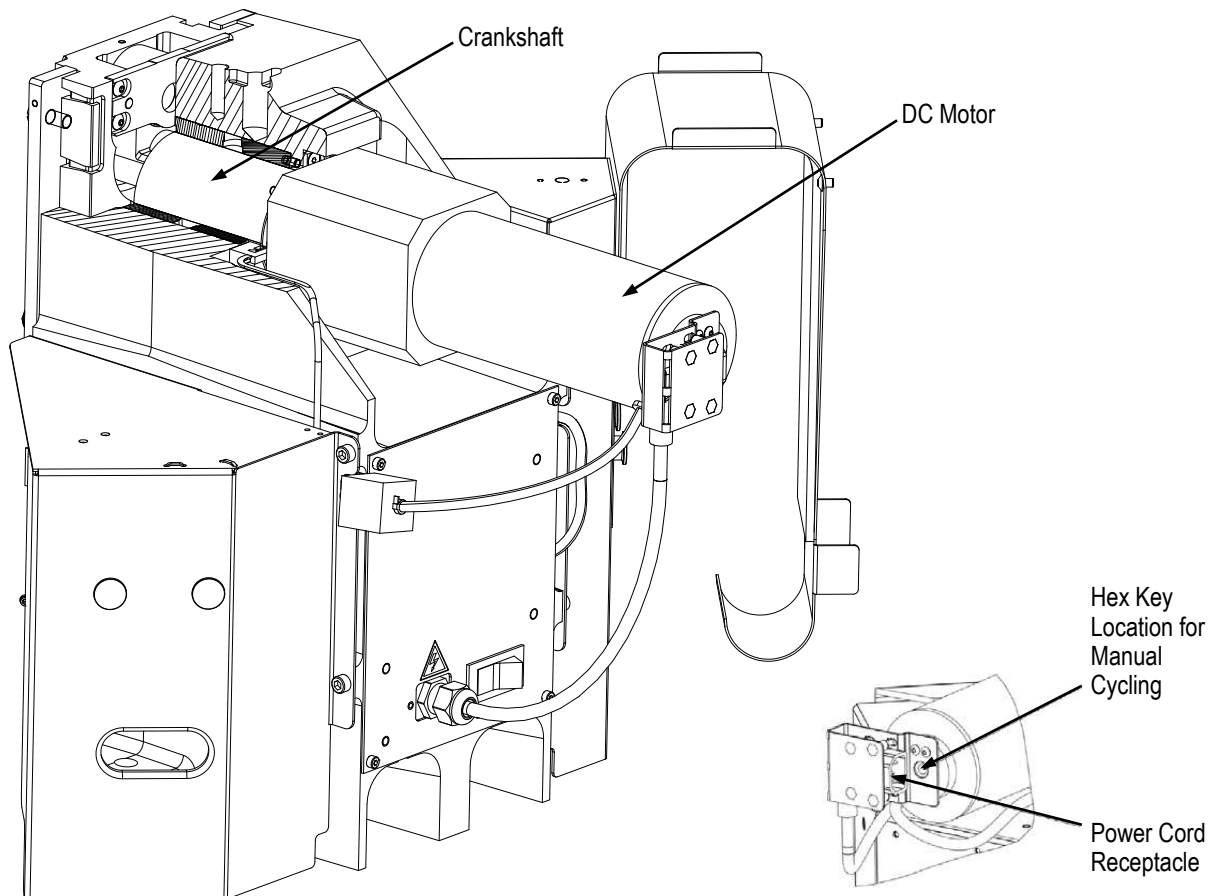

Figure 3
1. The **motor group** includes a dc motor which drives a crankshaft. The motor is activated each cycle and rotates the crankshaft one full revolution. A 6 mm hex key placed in the recess located on the end of the motor, can be used to cycle the motor manually. See Figure 3.